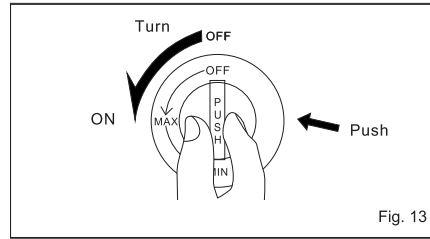
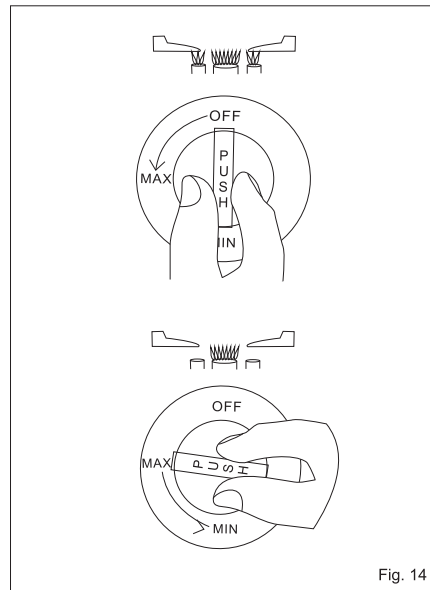

Fig. 13
Fig. 14
a. Open the main gas valve. push the gas control knob in and turn it towards the MAX position (counter-clockwise) until you hear the ignition click. Make sure that the burner has been lit.(Fig.13) in this position, double burner will light up both the small and large burners. To use only the small burner, release the gas control knob and turn it further to the MIN position. (Fig.14)